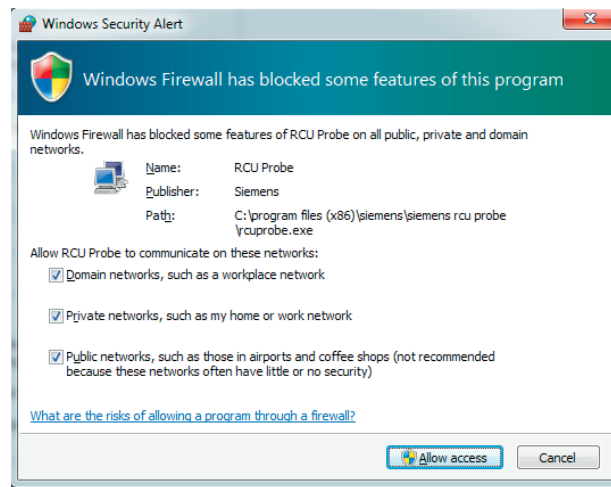

Figure 4
7. Run the RCU Probe application. On first run of the application, the following security alert may be displayed shown in Figure 4. Tick the check boxes to allow RCU Probe to communicate on all networks and click the "Allow access" button.